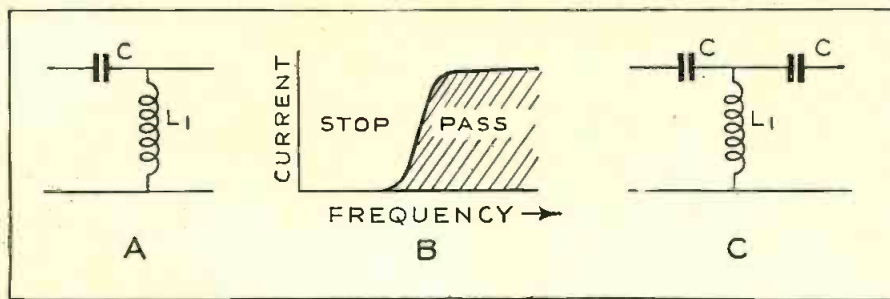

Figure 1. (A) A single section high-pass filter. (B) Transmission characteristic of a high-pass filter. (C) Single section T-type high-pass filter.
A SIMPLE type of high-pass filter is shown in (A) of Figure 1. The high-frequency current passing through the circuit encounters very little impedance from the series condenser, but encounters a high impedance in the inductance, so not much is shunted. The low-frequency currents attempting to pass through, however, encounter high impedance in the condenser and are easily short-circuited out by the inductance—none of them, therefore, getting through. The action of this type of filter is shown at (B). Notice that the low frequencies are cut off and the high frequencies are passed through. At (C) is shown a single section T-type high-pass filter.